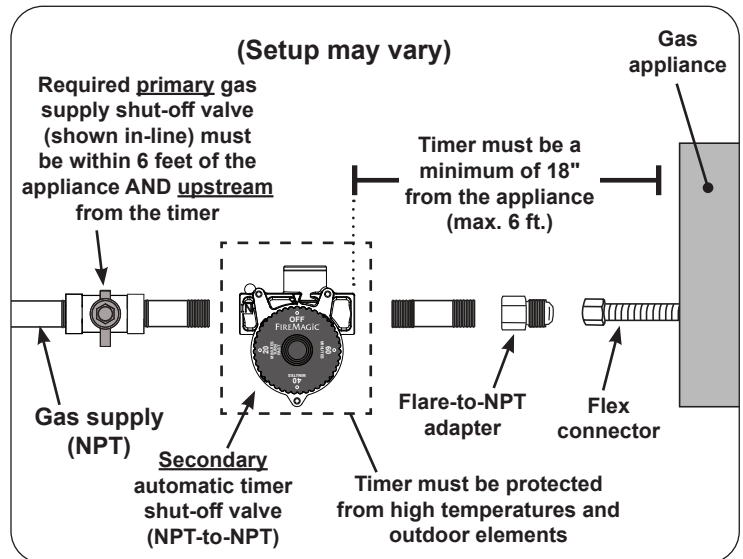

Fig. 1-1 Timer installation overview
In addition to following the CONNECT GAS SUPPLY section of the gas appliance owner's manual, install the timer in the gas supply line (between the shut-off valve and the appliance). See Fig. 1-1 and 1-2.
- **Follow ALL information found in the requirements section above, in the gas appliance owner's manual, and in Fig. 1-1 and 1-2.**